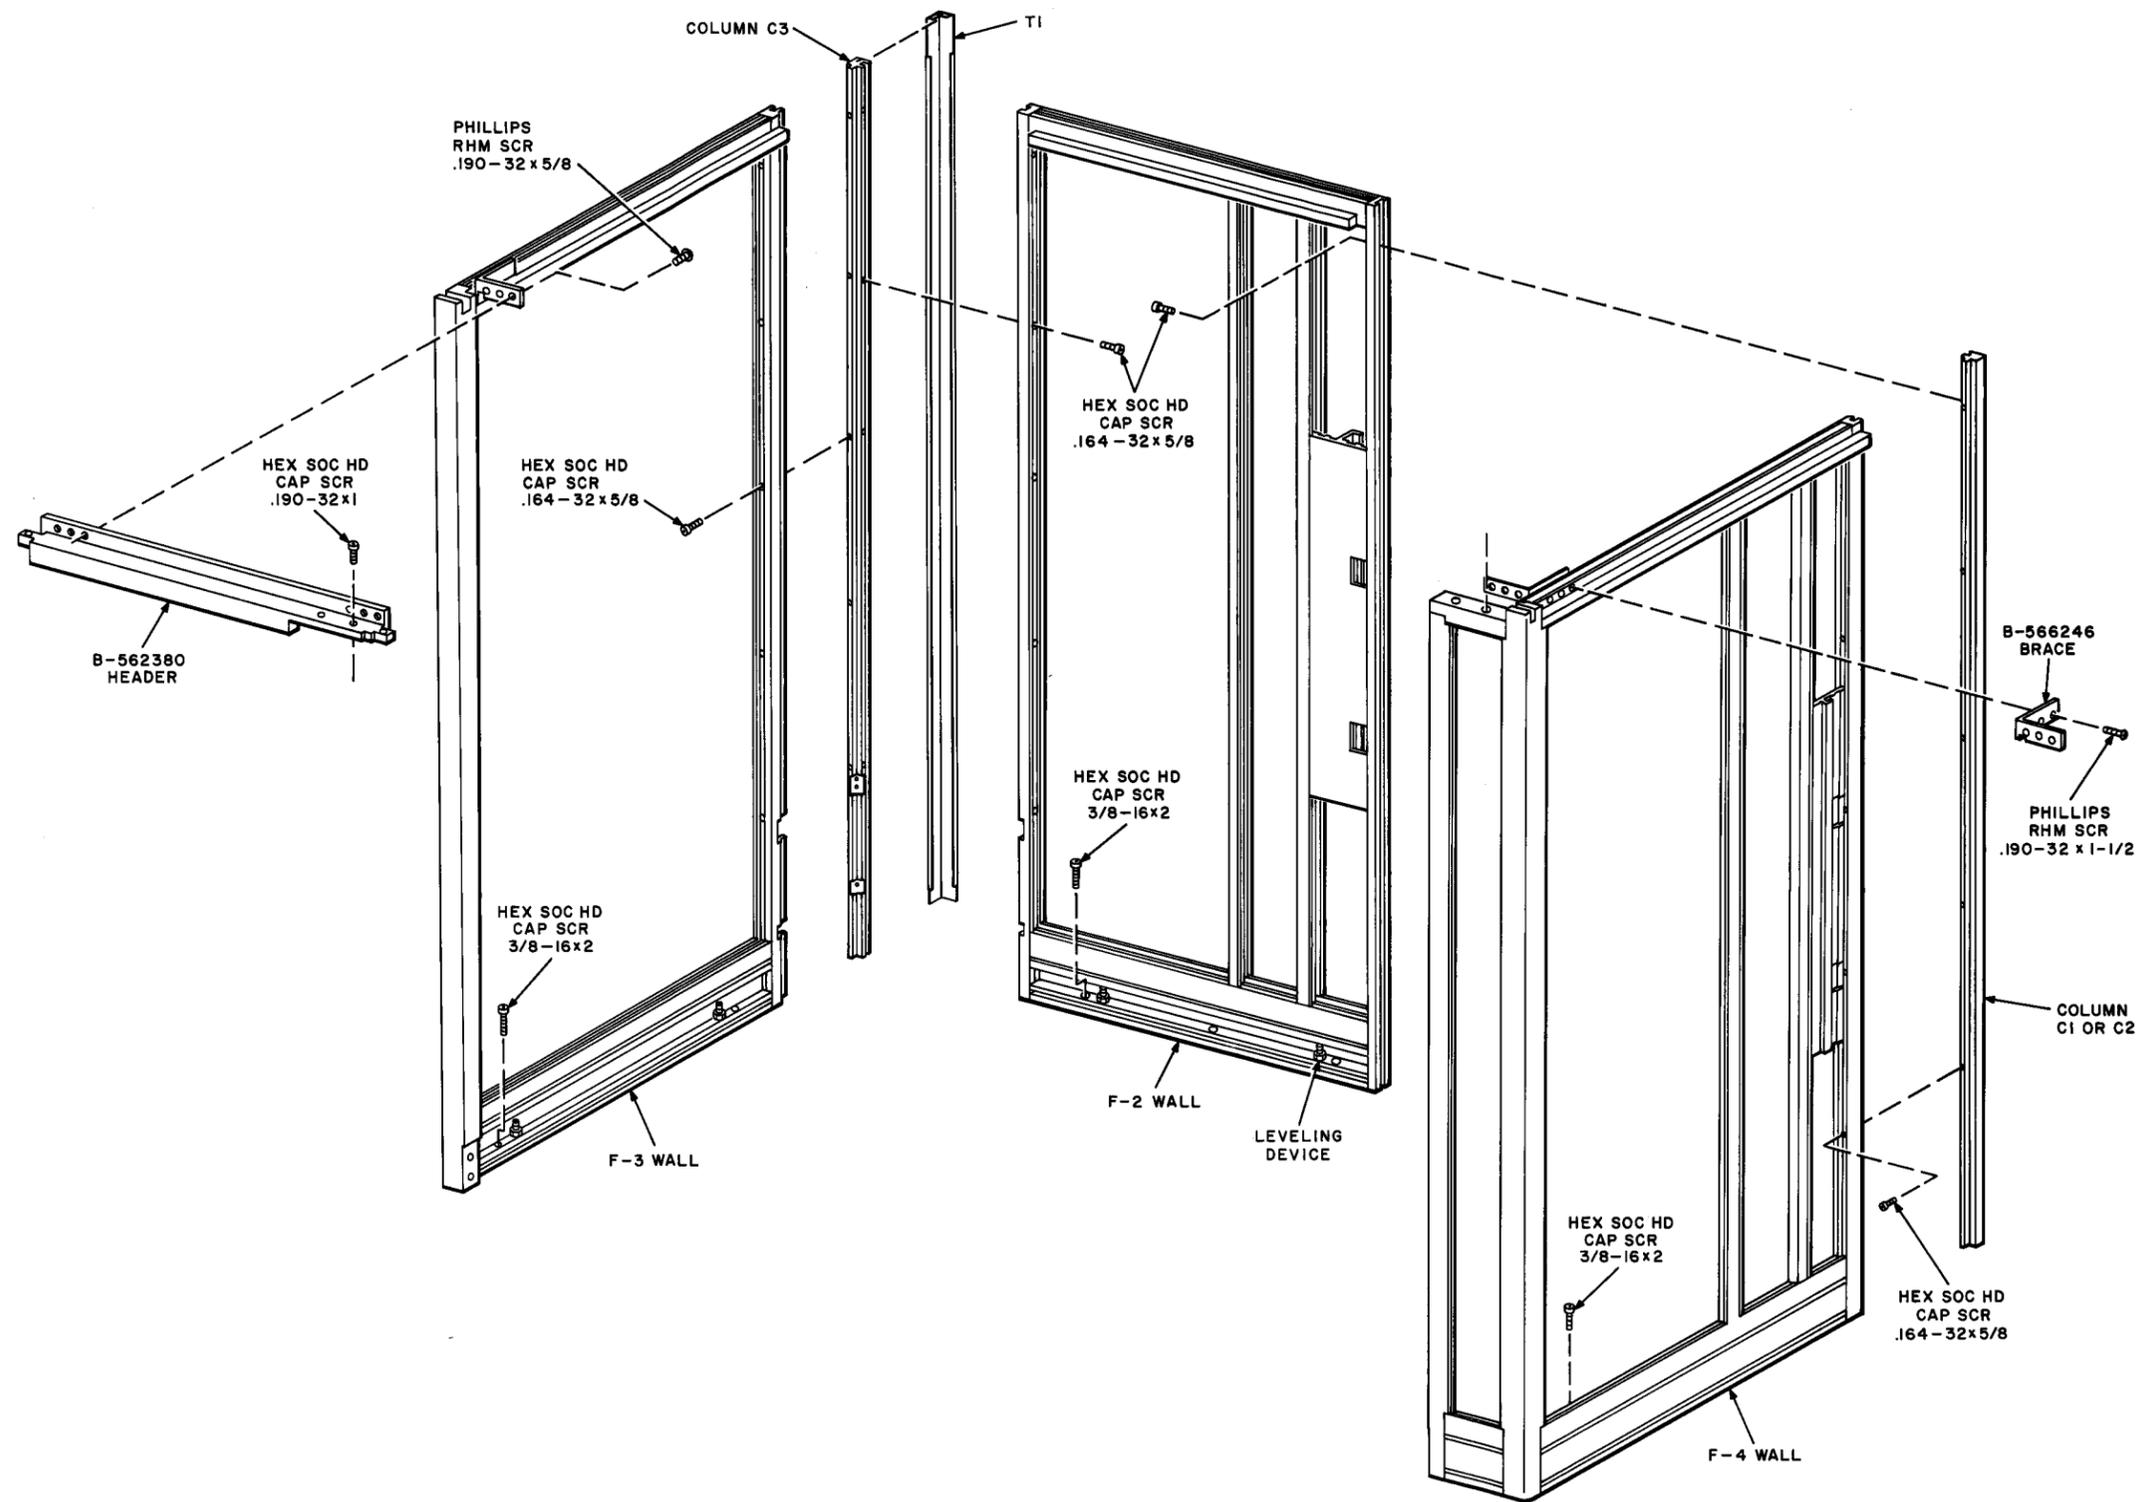

Fig. 26 — Addition of List 34 Unit
- (r) Remove T1 trim strip (Fig. 26) from left rear corner of booth.
(y) Place F-4 wall (Fig. 26) of List 34 booth package in the position from which F-3 wall was removed.
(al) Refer to Fig. 26 and install T1 trim strip, removed in (r).
- (j) Remove six .164-32 by 5/8 hex socket head cap screws which secure C2 column (Fig. 26) to the rear wall.
- (p) Place F-4 wall (Fig. 26) of List 34 booth package in the position from which F-1 wall was removed.
- (u) Install B-566246 brace (Fig. 26) on each side of F-4 wall using six .190-32 by 1-1/2 unpainted Phillips round head screws.
(e) Place F-4 wall (Fig. 26) of List 34 booth package in the position from which F-3 wall was removed.